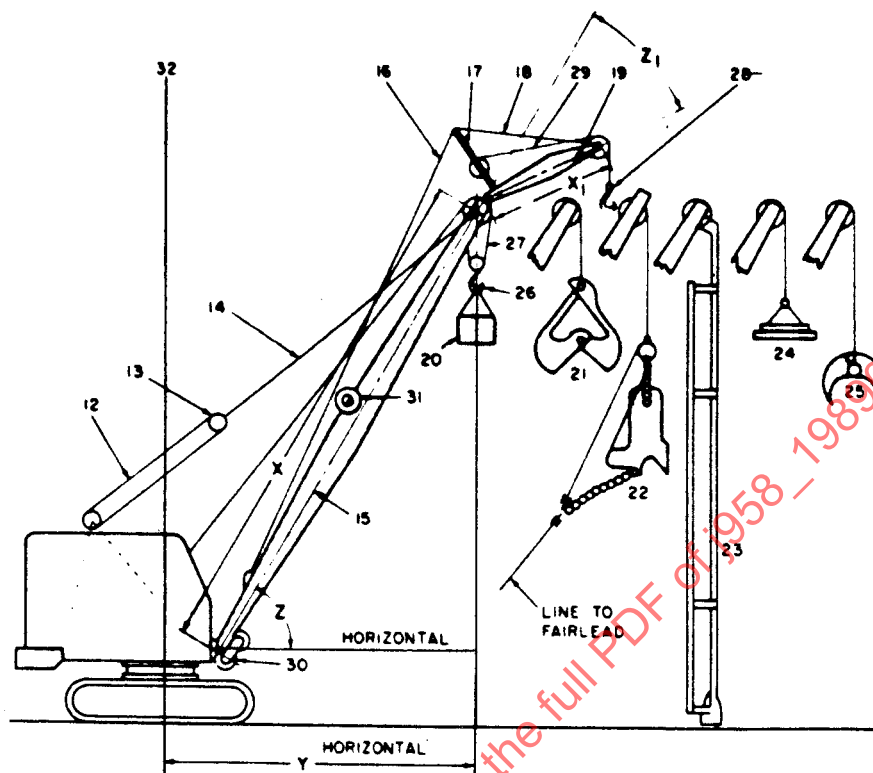

FIGURE 6—COMMON CRANE BOOM EQUIPMENT
7. Common Crane Boom Equipment—See Figure 6.